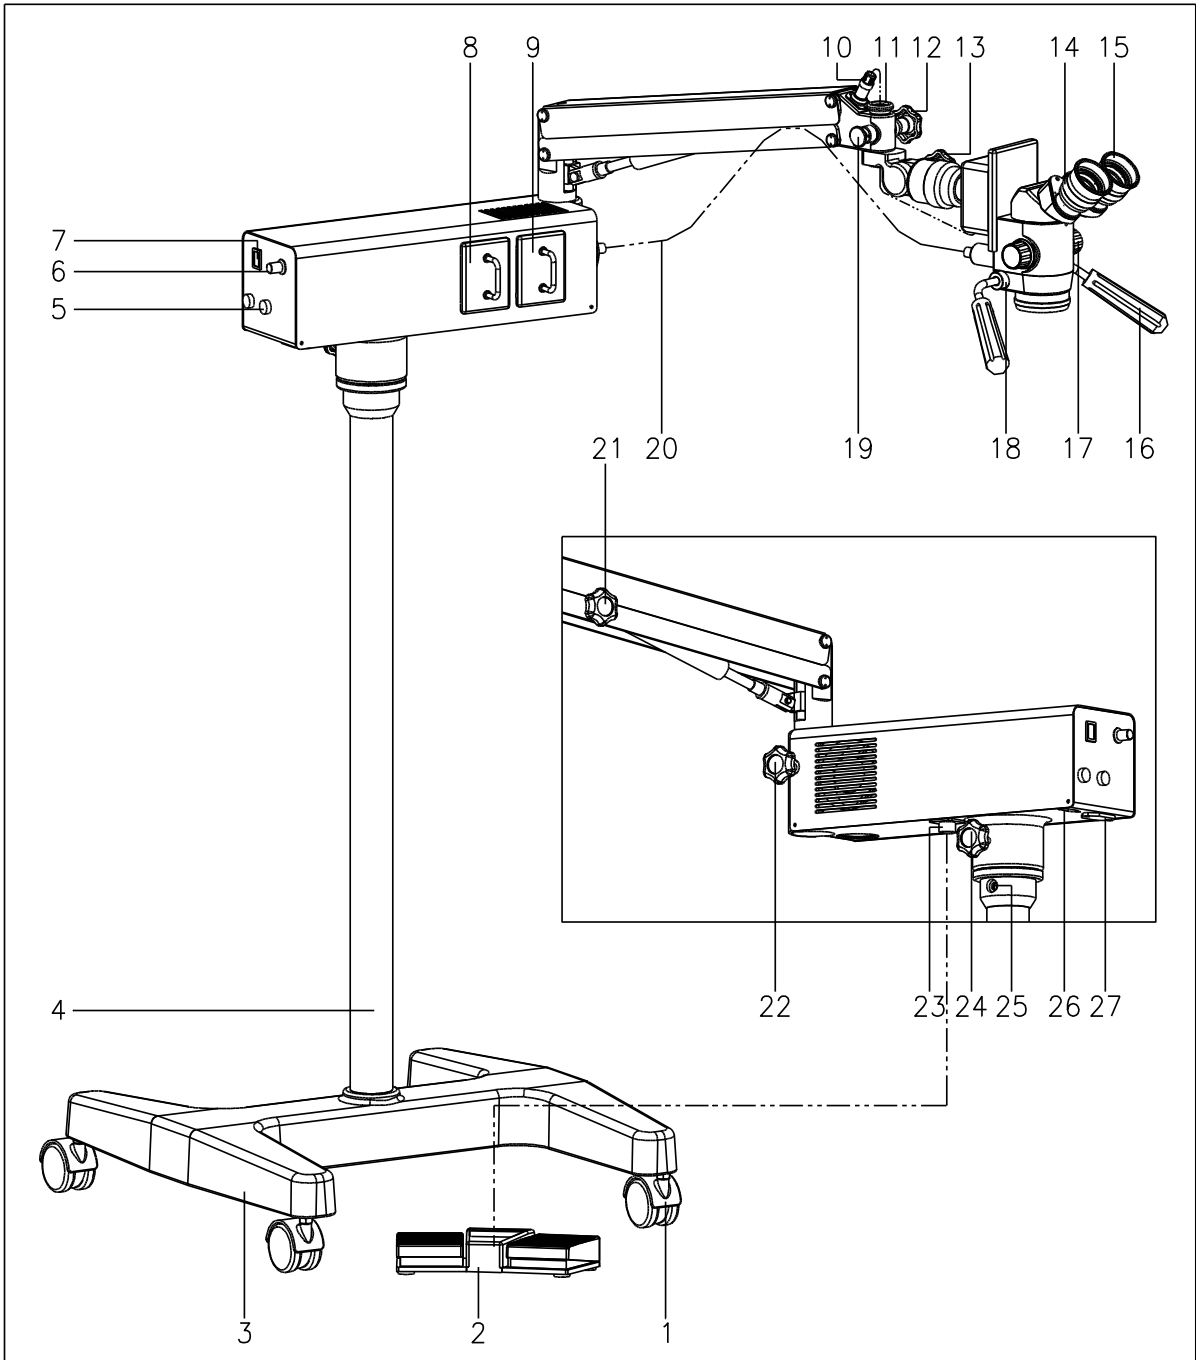
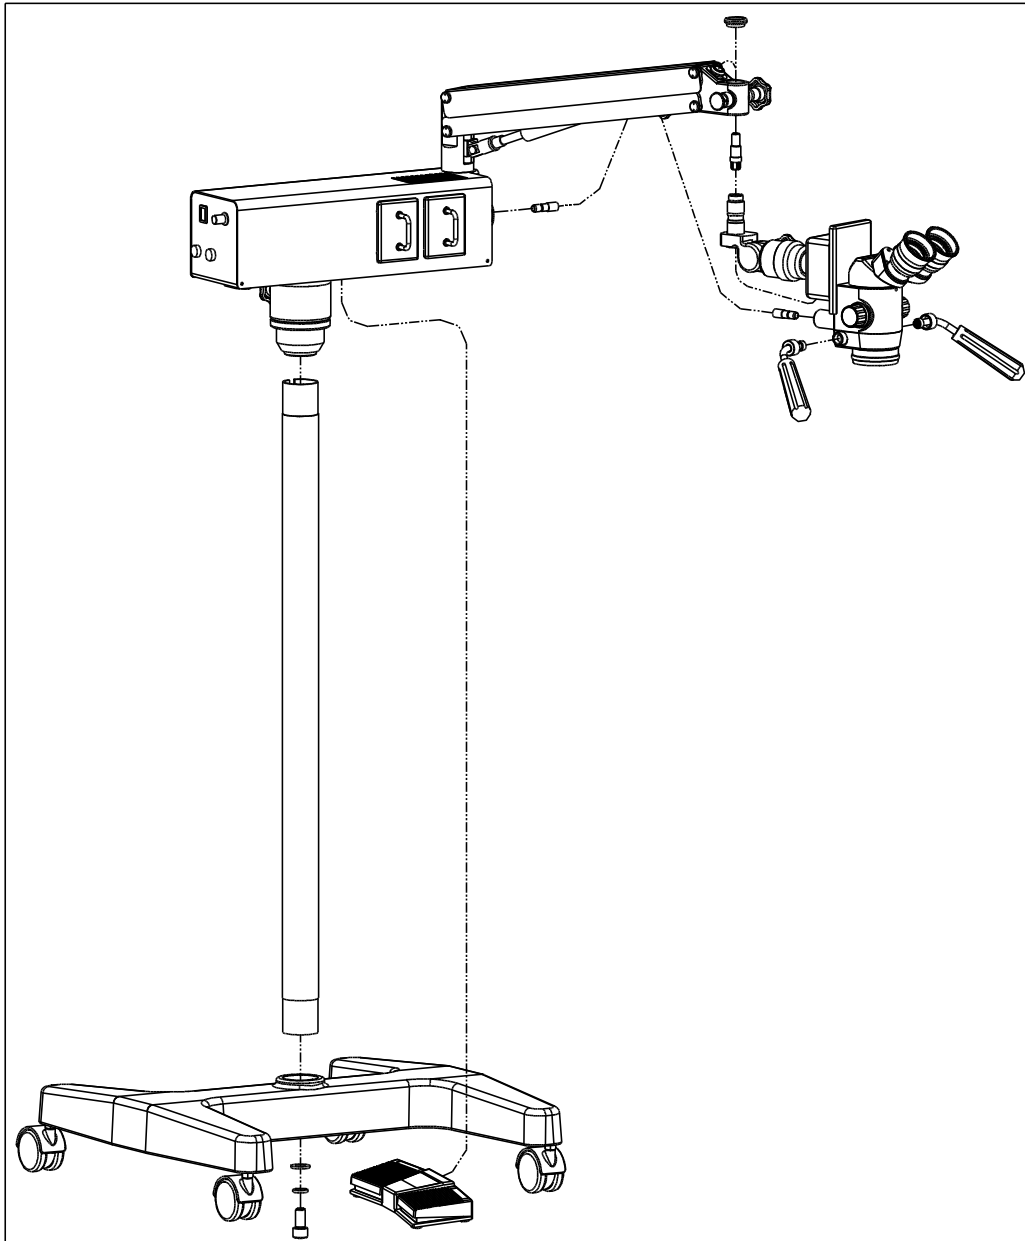

Fig 1
Fig. 2
- (1) Please take out the floor stand[3] from the package, lay it on the ground.
- (2) Take out the stand pillar [4], turn out the inner hexagonal bolt and gasket of its end, insert it into the hole of the floor stand[3] , and then turn the stand pillar [4] to make the column pin on the base support clip in the groove on the end of stand pillar, assemble in order the unassembled gasket、spring gasket、inner hexagonal blot, and fasten it firmly with 10mm hexagonal wrench (Fig.2).
of stand pillar [4] and fasten it firmly with 6mm hexagonal wrench(Fig.2).
- (1) First check the tightening blot of star knob [12], make sure that the end of the bolt does not protrude out of the hole surface.
- (2) Remove the fixing nut [11]. Pull out the safety pin [19] with one hand, hold the connecting part of microscope with another hand. Insert the shaft into the hole of the arm from the bottom to top. Then release the safety pin [19], it will spring back to the groove on the shaft. Finally fasten the fixing nut [18] (Fig. 2).
- (3) Insert the 7-pin plug [10] into the 7-pin socket. Pay attention to align marks for alignment on both the plug and socket.
Insert the manipulating handle [16] into the holes on the two sides of the microscope holder respectively. The proper handle position should be down to an angle of  $40^\circ$  (as shown in Fig. 1). Then fasten the fixing block circle on the project plane of the two sides of the microscope and make the manipulating handle not to move axile direction (Fig. 2).
- (1) Remove the fiber optics protective cover.
- (2) Insert one end of the fiber optics [20] into the side hole of the light source box and insert another end into the hole behind the microscope (Fig. 2).
- (1) First connect the 5-pin plug on the foot control switch [2] with the 5-pin socket [23] under the power controlling box (Fig.1). Pay attention to align marks for alignment on both the plug and socket. Then connect power cable with mains outlet and switch on the power switch [7]. so that you start foot control.